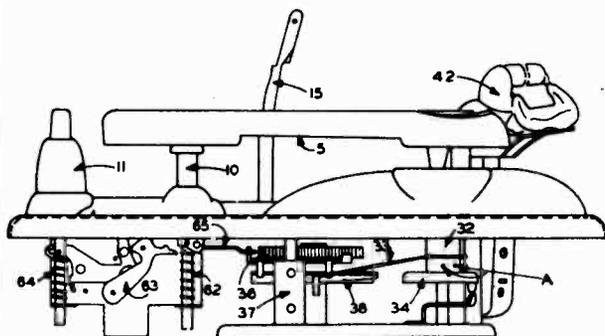

Fig. 1
At the completion of the change cycle, the Actuating Pawl is disengaged from the Main Cam Assembly Actuating Gear (36) by the hook end of the Velocity Trip and Roller Assembly (37) which has been returned to its normal position by the reset points on the Main Cam Drive Gear (Fig. 3). This hook should be adjusted for about  $\frac{1}{64}$ " clearance from the bottom of the Main Cam Drive Gear (36), Fig. 1. Greater clearance may permit the pawl to bounce past the hook and re-engage, causing the mechanism to continue to cycle.
Be sure the set screws of (A of Fig. 1) of the pickup arm raising disc are not loose and are properly positioned in the alignment holes as explained in the paragraph on Needle Setdown Indexing.
2. Set the Record Selector Post (42) to the 10" position.
4. Be sure the notch in the Pickup Arm Raising Disc (34) engages the Pickup Arm Raising Lever (40).
5. With a No. 8 Bristol wrench in each of the set screws of the Pickup Arm Raising Disc (35) as indicated in A, Fig. 1, alternately loosen one screw and tighten the other until the needle rests above the record lead-in groove at the desired point.
6. Complete the change cycle of the mechanism and position the Pickup Arm on the "off" button (10). If necessary, bend the tongue of the Pickup Arm Raising Disc closer to or away from the Base Plate Post until the Pickup Arm is correctly seated on the "off" button when the tongue is touching the Base Plate Post.